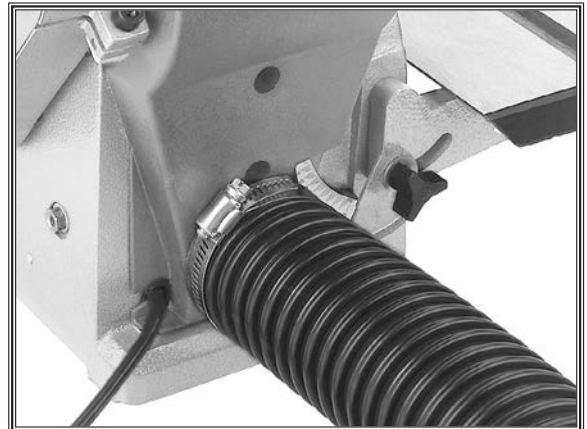

Figure 12. Dust port connected to dust-collection system.
1. Fit 2¹/₂" dust hose over dust port, as shown in **Figure 12**, and secure in place with hose clamp.